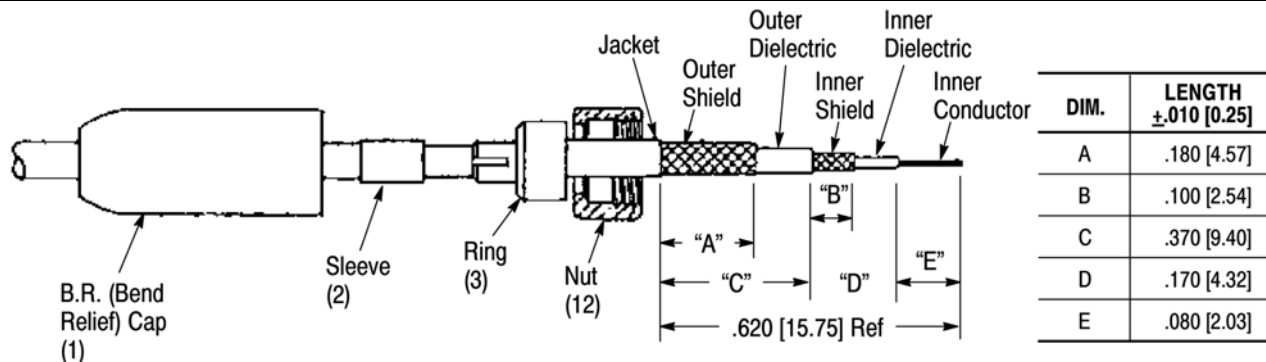

Figure 2
Slide bend relief cap (1), sleeve (2), ring (3), and nut (12) over triax cable as shown in Figure 2. Strip cable per dimensions shown in Figure 2.